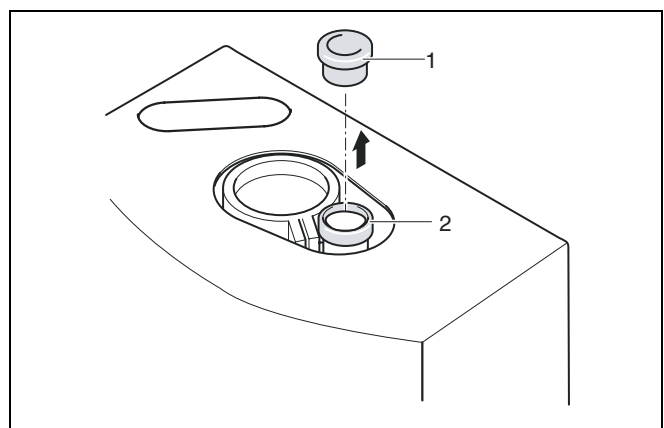

fig. 12 Remove sealing cap on condensate water bypass (applies only to boiler connection pieces made of plastic)
If the flue gas adapter is made of aluminium, the sealing cap (fig. 12, item 1) MUST NOT be removed.